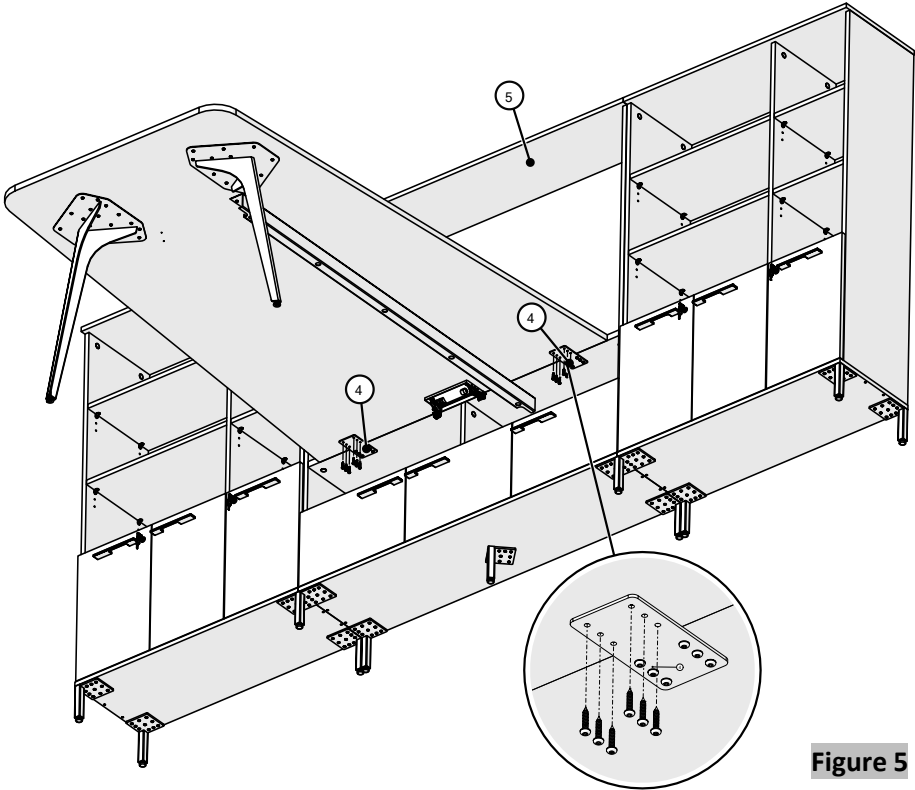

Figure 5
8. Securely fasten AV Unit Mounted Video Table to flush plates using #10 x 1" Pan Head Screws, (Figure 5).